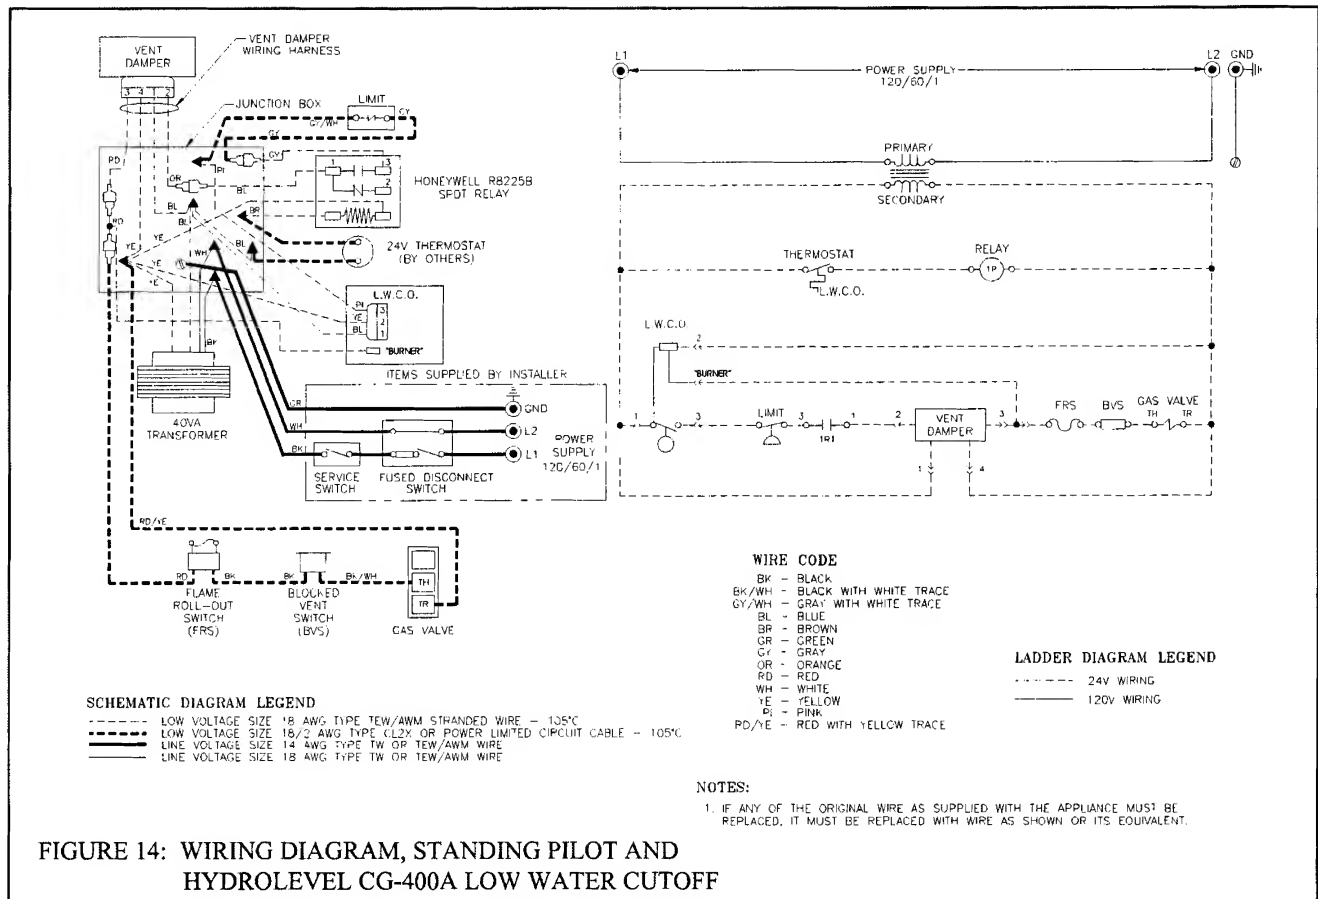

FIGURE 14: WIRING DIAGRAM, STANDING PILOT AND
- 1) 120 Volt Wiring - The boiler should be provided with its own 15A branch circuit with fused disconnect. All 120 volt connections are made inside the junction box on the left side of the boiler. Remove the transformer to gain access to this box (also see Figures 14 through 17):
(Refer to Figures 14 through 17 for ladder and connection diagrams)